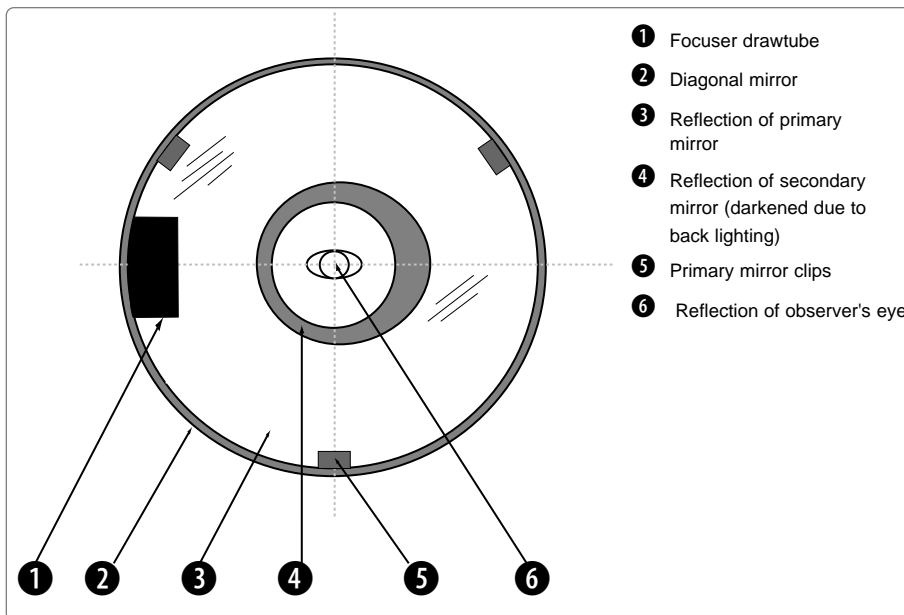

Fig. 31a: The view you will see while collimating a Schmidt-Newtonian telescope.
Fig. 31a shows a correctly collimated Schmidt-Newtonian telescope, as it appears when viewed through the focuser with the eyepiece removed.
1. Observe through the focuser and orient your body so that the telescope's primary mirror is to your right, and the correcting plate end of the telescope tube is to your left. The diagonal mirror will appear centered as shown (2, **Fig. 31a**). If the diagonal appears off center, then adjust the 4 collimation screws on the plastic diagonal mirror housing.
2. If the reflection of the primary mirror (3, **Fig. 31a**) is not centered on the surface of the diagonal mirror, adjust the 4 collimation screws on the plastic diagonal mirror housing to center the reflection.